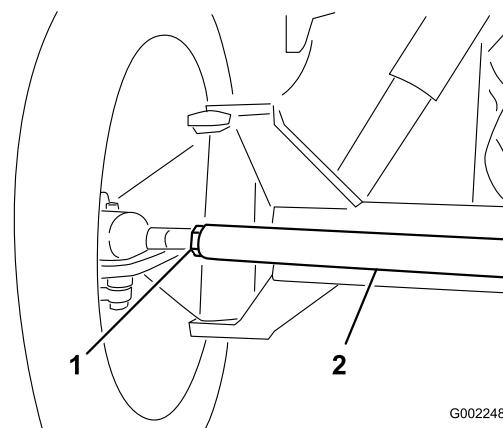

Figure 97
3. If the measurement does not fall within the specified range, loosen the jam nuts at both ends of the tie rod (Figure 97).